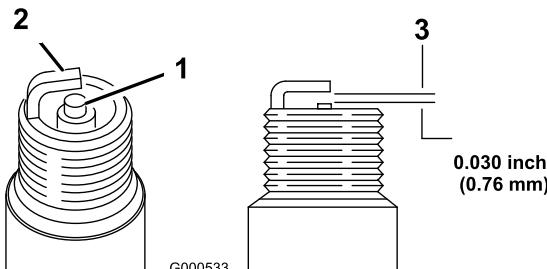

Figure 29
1. Look at the center of the spark plug (Figure 29). If you see light brown or gray on the insulator, the engine is operating properly. A black coating on the insulator usually means the air cleaner is dirty.
- Check the gap between the center and side electrodes (Figure 29). Bend the side electrode (Figure 29) if the gap is not correct.